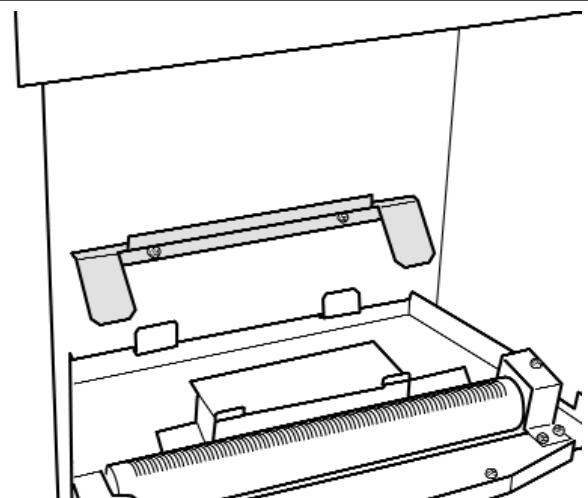

Figure 14. Fitting the rear ceramic support.
- 6.** This appliance is supplied with a rear ceramic support bracket. Fit this using two 'B' screws supplied (See figure 14).